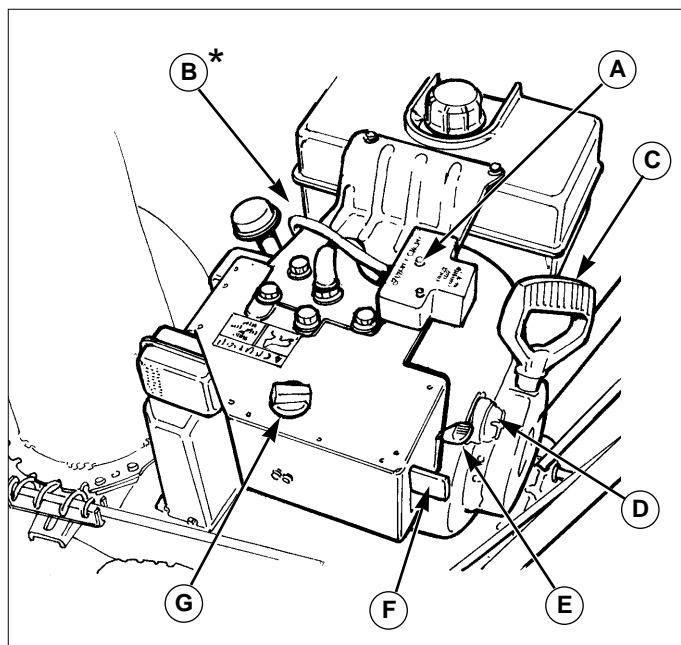

Figure 6. Engine Controls
1. Turn the fuel valve (B, Figure 6) to the ON position.
2. Insert the Engine Key (F, Figure 6) into the Engine Key slot and push fully in to the RUN position.
3. Move the Throttle Lever (E, Figure 6) fully up to the FAST position.
4. Turn the Choke Knob (G, Figure 6) fully clockwise if engine is cold. (Do not choke a warm engine.)
5. Push the Primer Button (D, Figure 6) two times if engine is cold. (Do not prime a warm engine.)
6. Pull Starter Handle (C, Figure 6) rapidly, or push Starter Button if equipped with the electric start. Do not allow the Starter Handle to snap back—let the starter rope rewind slowly—while keeping a firm grip on the Starter Handle.
7. As the engine starts and begins to operate evenly, turn the Choke Knob (G, Figure 6) slowly counter-clockwise to the OFF position, and set the Throttle Lever to SLOW. If the engine falters, turn the Choke Knob clockwise until the engine runs smoothly, and let it run briefly before returning the choke to the OFF position.